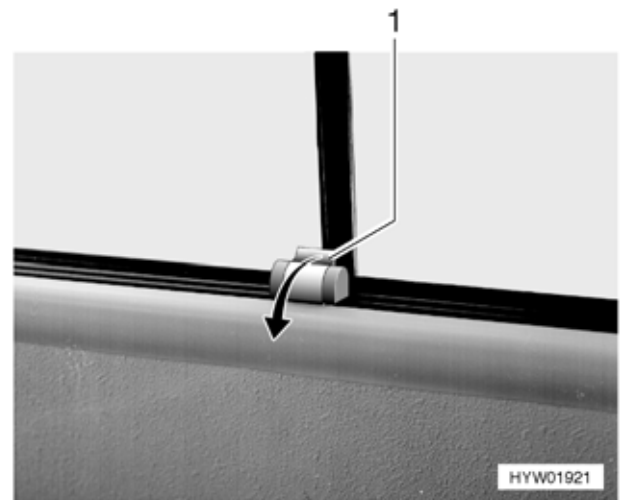

Fig. 37 Sliding window (variant 2)
- Tilt the catch (Fig. 37,1) inward.